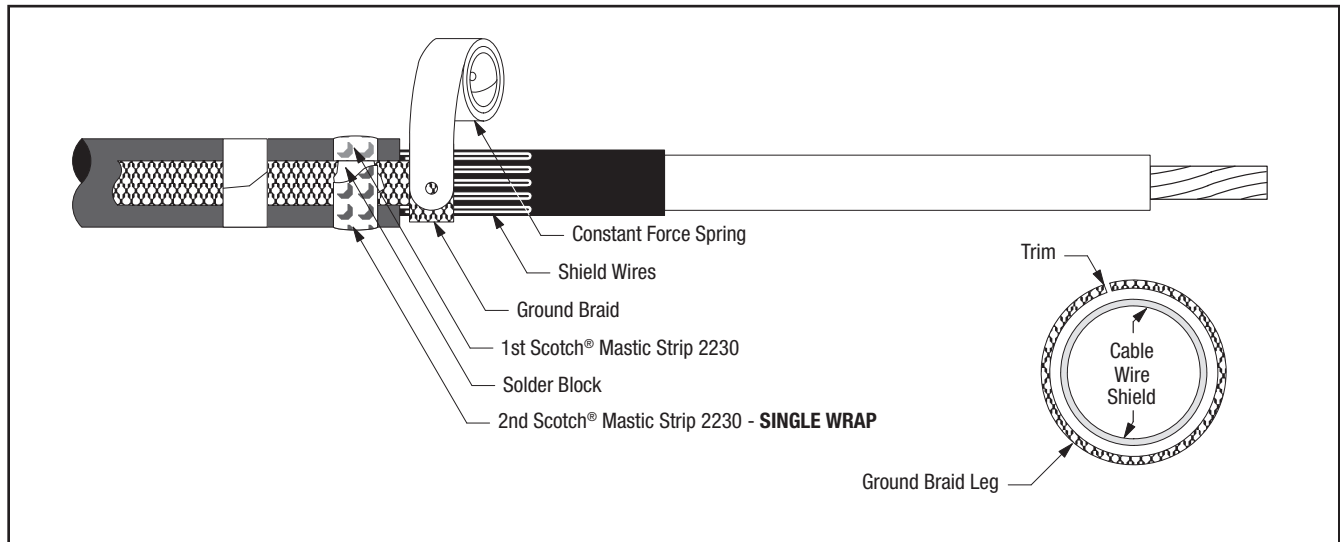

Figure 12
- 8.3 Wrap ground braid around cable shield wires one complete wrap, trim excess at approximately a 45 degree angle, and line up with the pre-bent 45 degree angle already on the ground braid, to prevent overlap. Secure in place with constant force spring. Wrap spring in same direction as ground braid (Figure 12). Cinch (tighten) the spring after wrapping the final winding.
- 8.4 Select second Scotch® Mastic Strip 2230 from kit and remove white release liners. Apply a second **SINGLE WRAP** of mastic over solder block on ground braid and previously applied mastic (Figure 12). Cut off excess.